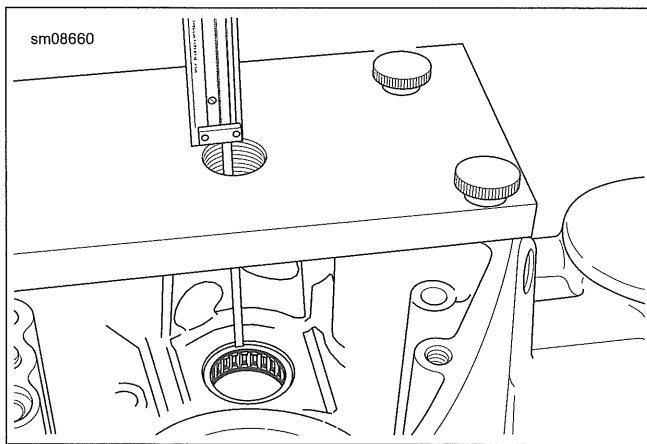

Figure 4-55. Measure from Top of Support Plate to Edge of Needle Bearing
3. See Figure 4-55. Turn forcing screw to press needle bearing to depth calculated earlier ± 0.020 in (0.54 mm).